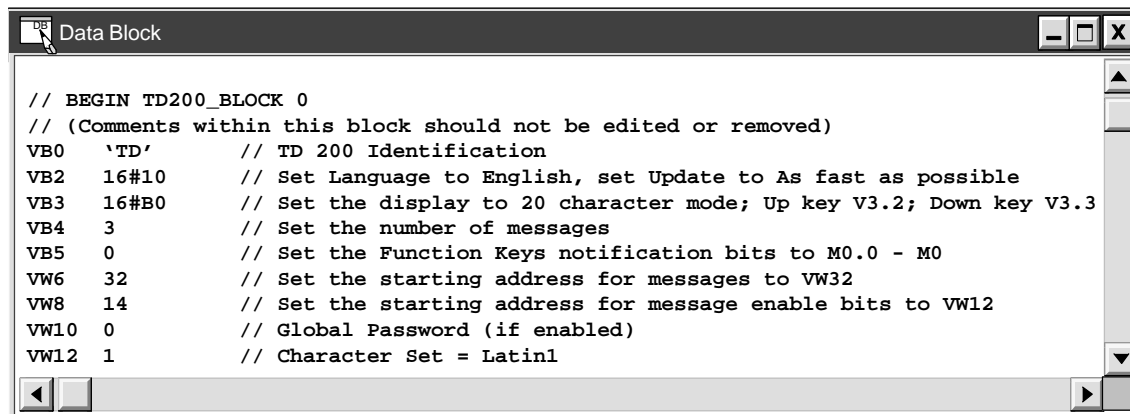

Figure E-2 Data Block Showing a Sample TD 200 Configuration
1. Select the menu command **View > Data Block**. The Data Block dialog box appears (Figure E-2).
In the steps below, the locations for changes are specified as byte offsets from the beginning of the configuration. The beginning address for the configuration is the address where the value "TD" appears. In Figure E-2 the line of code "VB0 'TD'" indicates that the TD 200 configuration address begins at VB0. To determine where to make changes, you must add the offsets specified in the steps below to the starting address for your configuration.
For example, line VB2 in Figure E-2 is 16#10. The "1" sets the language to English. To change the language to Chinese, change the line to read "VB2 16#60".
3. Offset of 3 bytes: To direct the TD 200 to use an alternate character set, you must set the most significant bit of this byte. You can use a hex calculator to add hex 80 to the current value in this location. To enable an alternate character set, modify the line in Figure E-2 to set VB3 to 16#B0.
4. Offset of 8 bytes: Ensure that the value specifying the starting address for the message enable bits is at least 14 bytes greater than the beginning address for the configuration. In Figure E-2, VW8 should be 14 bytes greater than VB0. If you used the default value of 12 suggested by a previous TD 200 Wizard ("VW8 12"), you should change this value to "VW8 14".
5. Offset of 10 bytes: Ensure that there is a placeholder for the password. If there is a password entry, you do not need to do anything. If there is no entry at this offset, enter a 0 as a placeholder. In Figure E-2, "VW10 0" shows that a "0" was entered as a placeholder.
6. Offset of 12 bytes: Specify the character set for user messages. Refer to Table E-2 to determine what value to enter. In Figure E-2, "VW12 1" indicates that the TD 200 configuration will use the Latin 1 character set for user messages.